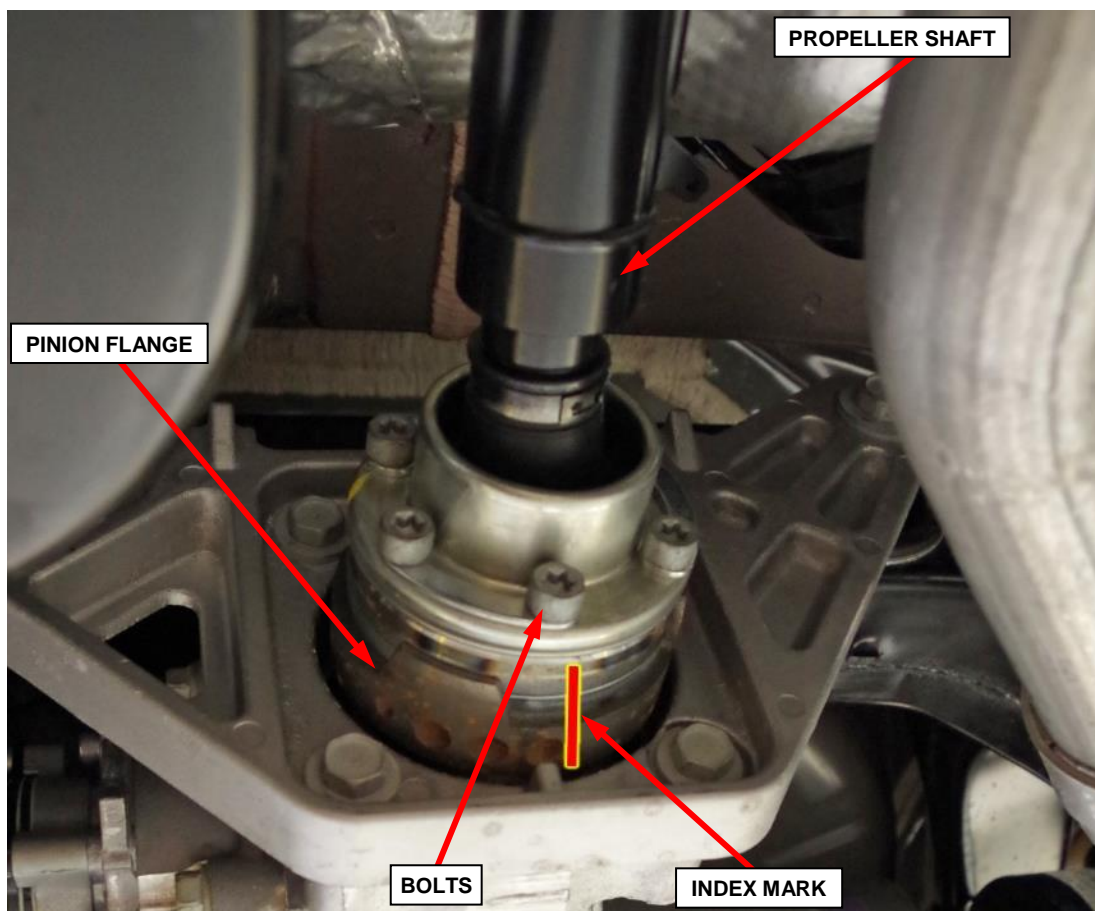

Figure 30 – Rear Propeller Shaft Flange
- a. Apply alignment index marks on the rear differential pinion flange and the rear propeller shaft flange for alignment during reassembly (Figure 30).
- b. Remove and **DISCARD** the six propeller shaft bolts at the rear pinion flange (Figure 30).